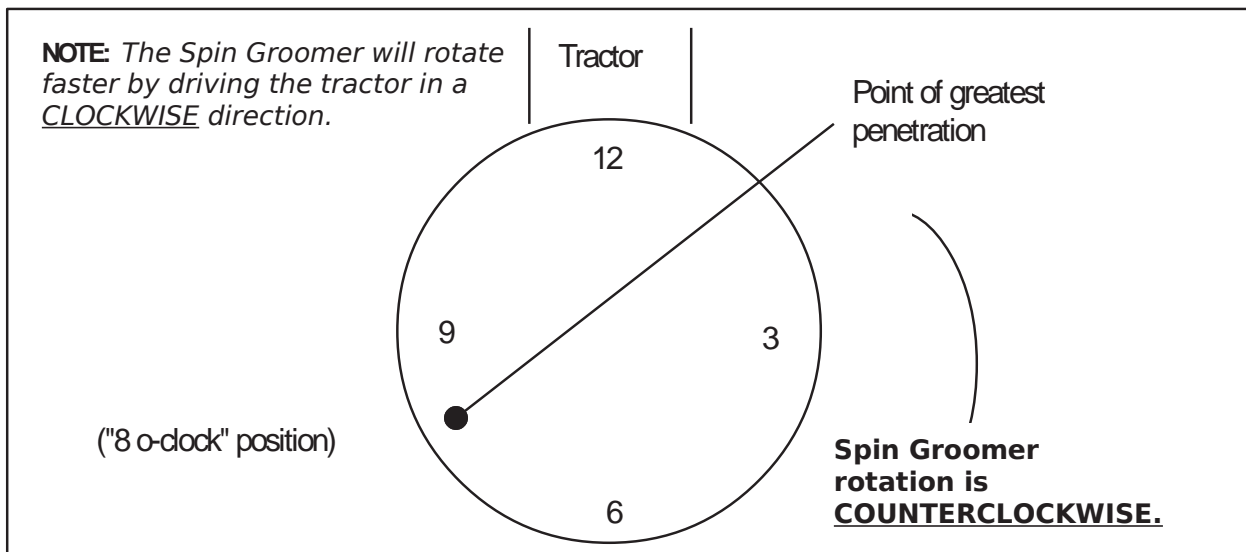

Figure 3A - Adjusting for Point of Greatest Penetration
2. Raise the spin groomer with the tractor three-point hitch so that the front part of the grooming ring is approximately two inches off the ground. (**Refer to Figure 3A;** the front part of the grooming ring is that portion at the "12 o'clock" position.)
6. Now *lengthen the top lift arm* of the tractor three-point hitch so that the **lowest point of the grooming ring is at "8 o'clock"** as shown in Figure 3A. **This is the recommended point of greatest penetration.**
2. Slowly lower the spin groomer until the grooming ring rests on the ground in the "8 o'clock" position (refer to Figure 3A). As the tractor moves forward and achieves the recommended operating speed (not to exceed 8 mph), the spin groomer will rotate *counterclockwise* and begin loosening and grooming the surface.
1. **To achieve more aggressive grooming (e.g. for hardened, compact surfaces), shorten the lower righthand linkage.** You may also want to shift the point of greatest penetration towards the "9 o'clock" position when grooming very hard, compact surfaces. *Shortening the top lift arm* of the three-point hitch will move the grooming ring's deepest penetration toward the "9 o'clock" position (refer to Figure 3A).